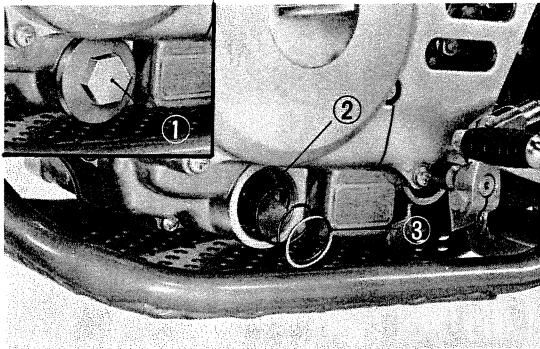

Fig. 5 ① Oil filter cap ② Screen filter ③ Spring
- 2) Check both the screen filter and spring for presence of dust and dirt; if necessary, clean in solvent or gasoline and dry with compressed air. (Fig. 5)